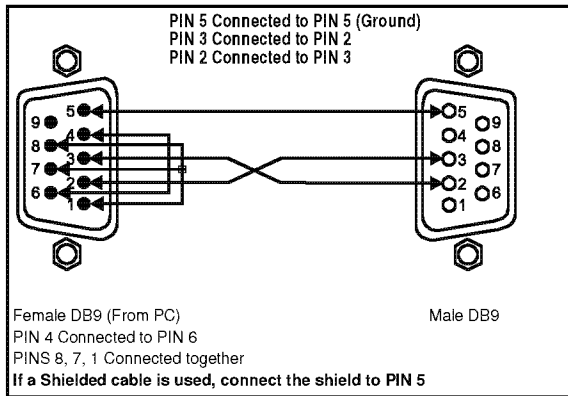

Figure 2: Connecting a PC without using a Null-modem Adapter
- Connect the RS-232 DB9 port on your PC to the RS-232 DB9 rear panel port on the **SP-11D** unit, as Figure 2 illustrates